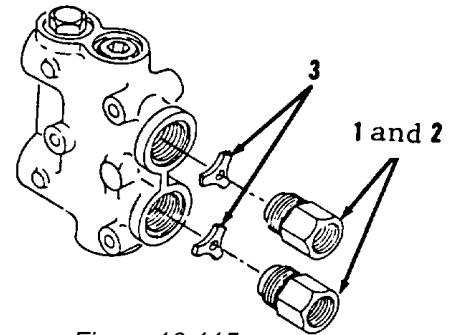

Figure 10-115.
1. Remove two items 1 and 2 as an assembly and chokes (3, Figure 10-115).